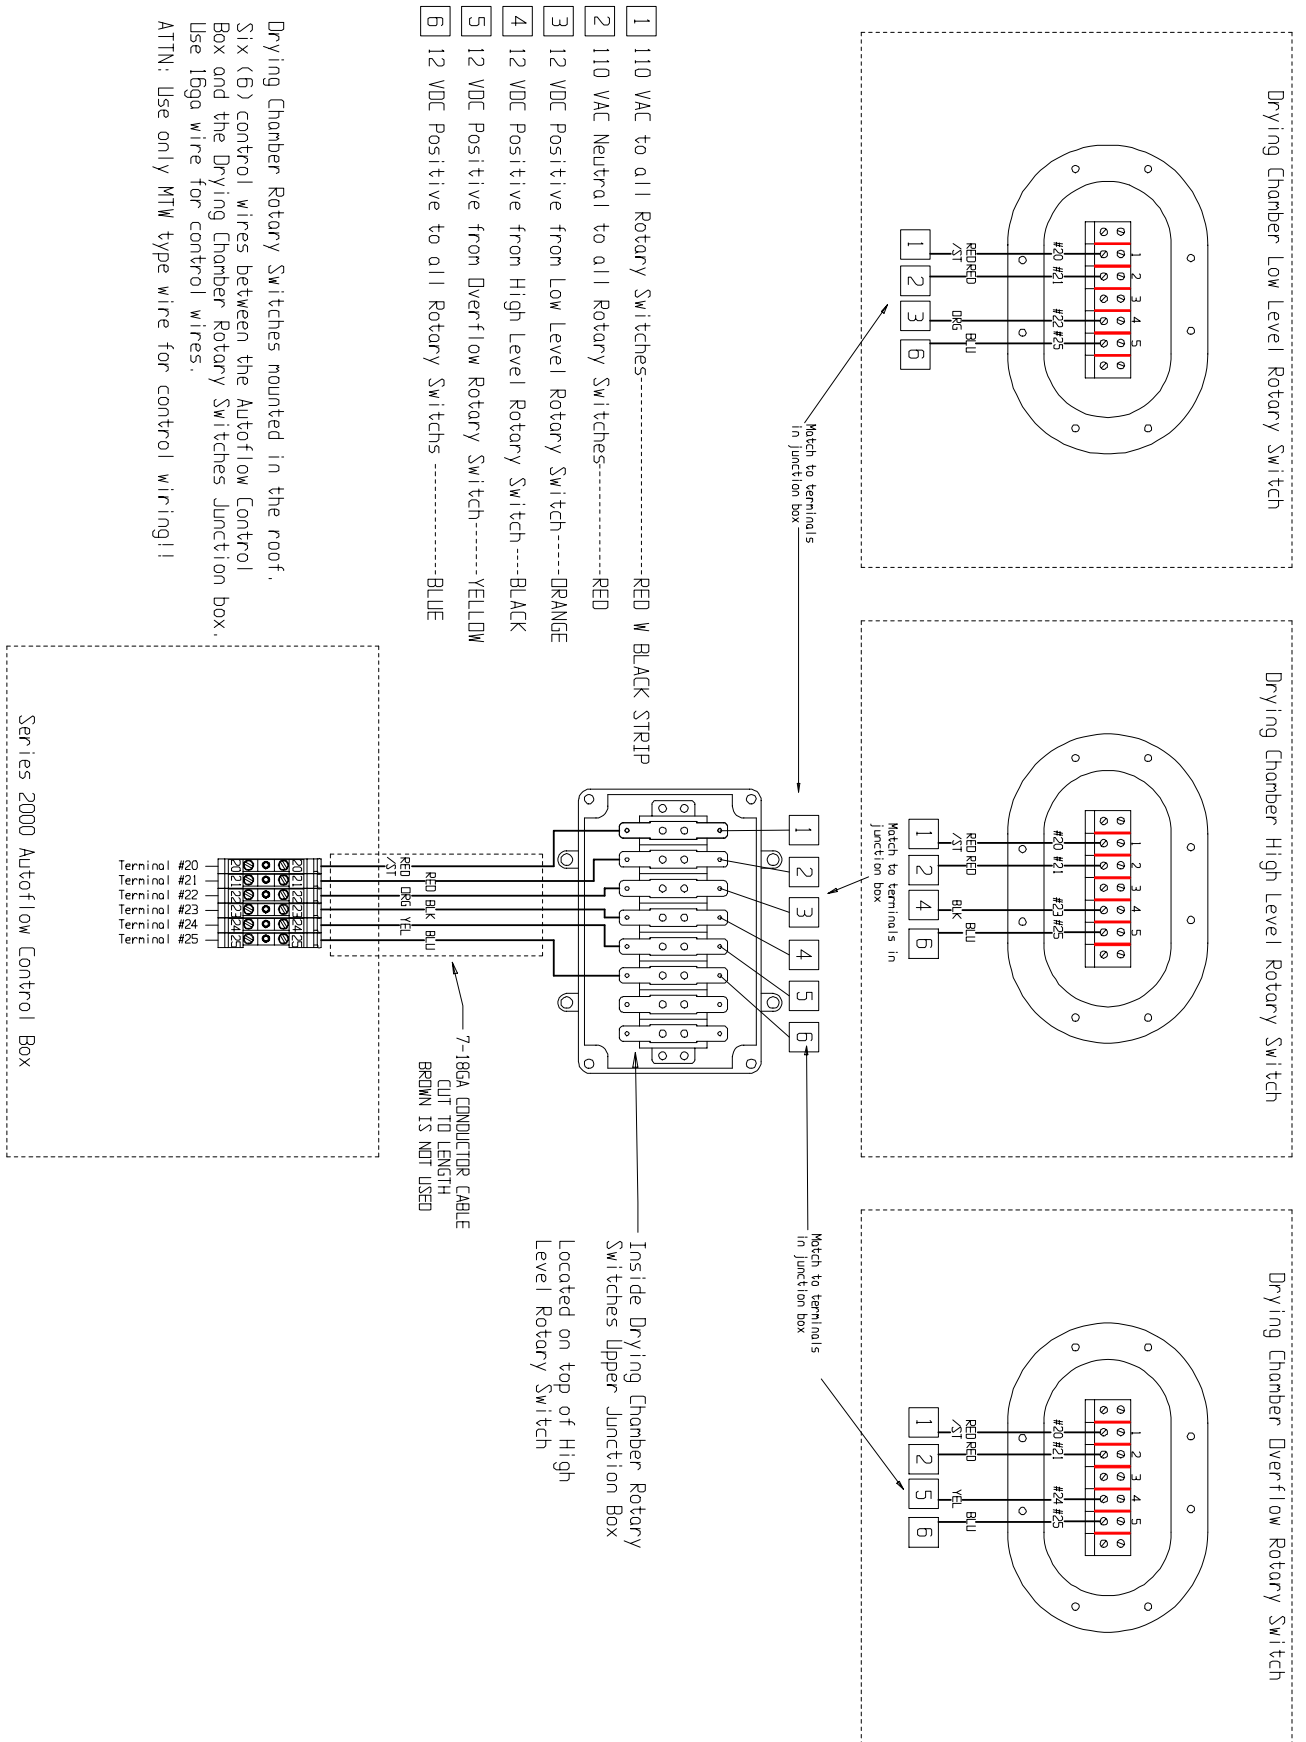

Figure 23
- 1) Run six (6) control wires from the Autoflow Control Box to the Drying Chamber Rotary Switches.
- 2) Connect the wires as shown in figure 23.